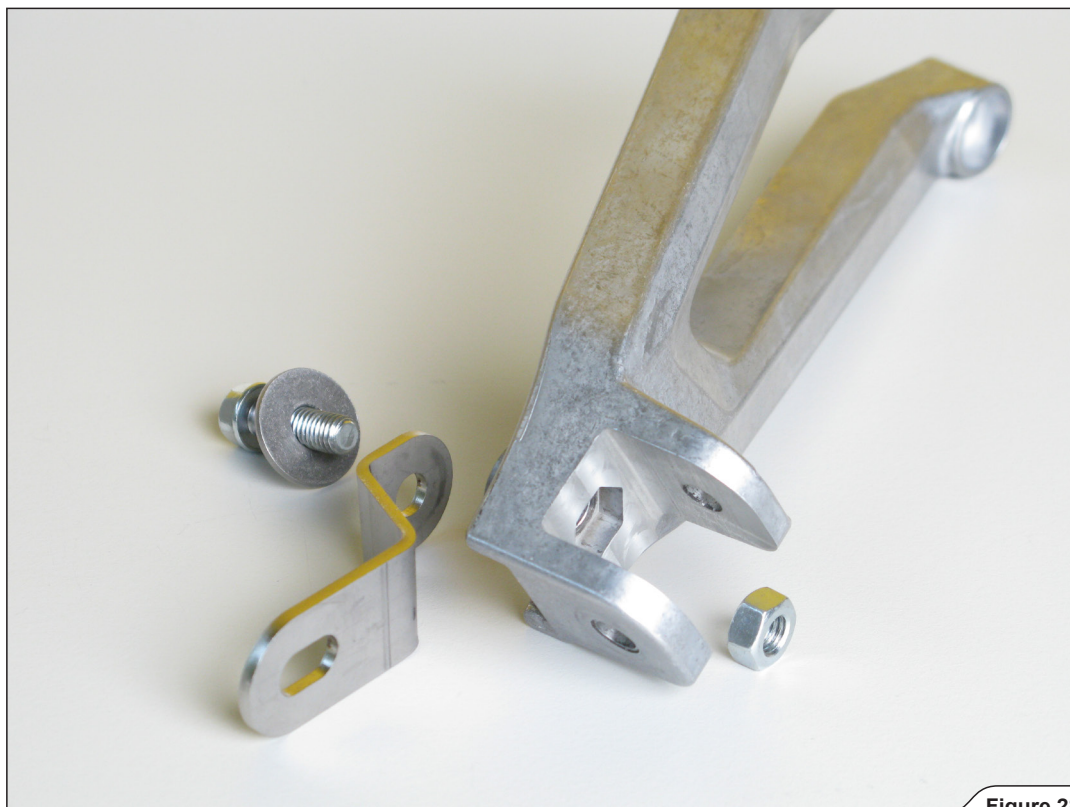

Figure 28
12. Attach the additional Akrapovič stainless steel bracket to the stock right passenger footrest bracket, using Akrapovič nut, bolt and washer (**Figure 28, 29**).